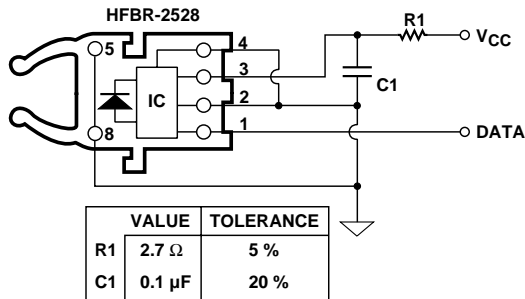

Figure 5. Recommended receiver application circuit.
- Pin 4 is electrically isolated internally. Pin 4 may be externally connected to pin 1 for board layout compatibility with HFBR-25X1Z, HFBR-25X2Z and HFBR-25X4Z. Otherwise it is recommended pin 4 be grounded as in Figure 5.